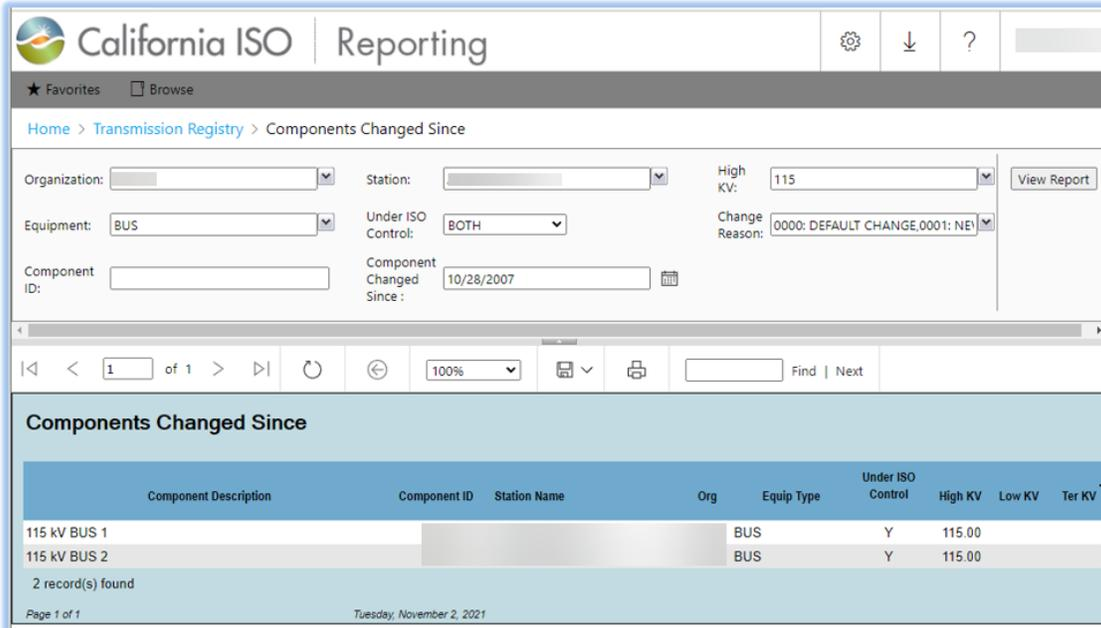

Figure 37 Components Changed Since Results
- 9) Once submitted, a screenshot resembling Figure 37 appears.